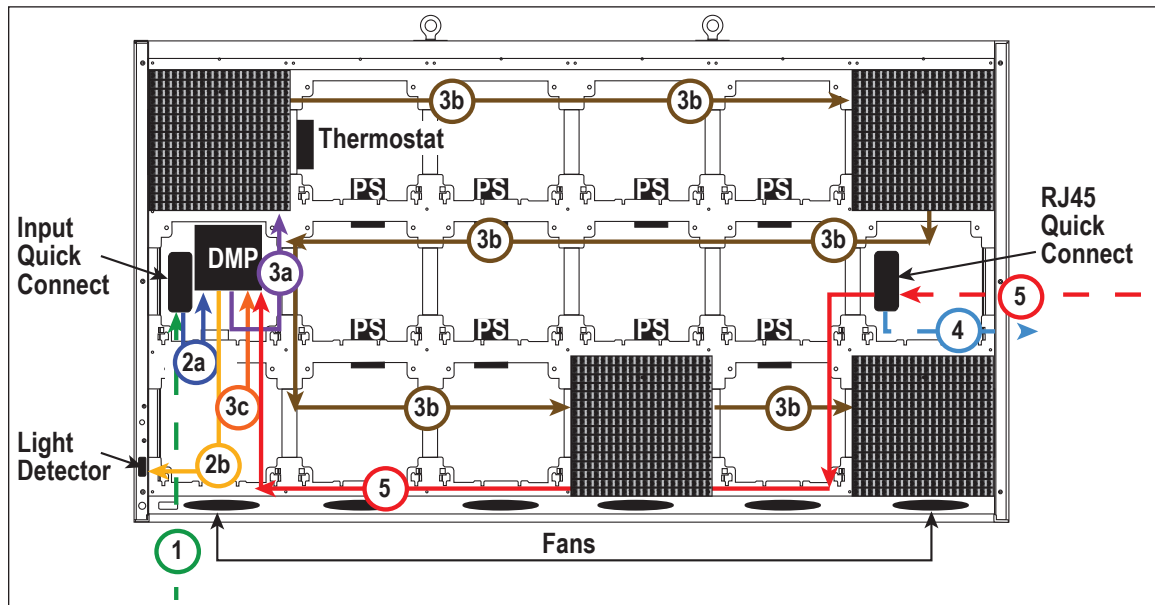
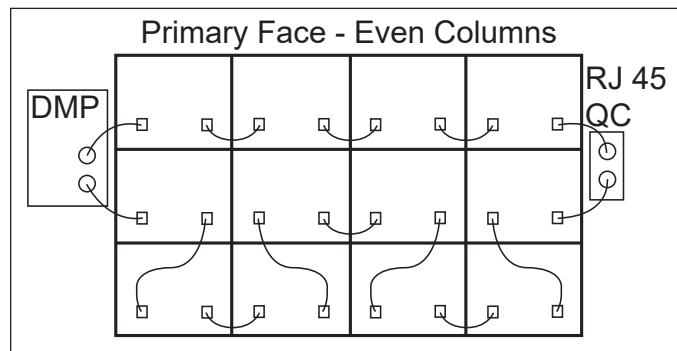

Figure 19: Signal Routing
Figure 20: Module-to-Module Signal Routing
Figure 19 shows how signal is routed through the display.
1. Signal enters the display from the external signal enclosure through the signal input quick-connect jacks (1).
3. In single-face displays, signal travels from the Controller SATA A jack to SATA A on the first Module (3a) and travels from module to module via SATA cables (3b). Refer to **Figure 20**. Signal returns to the Controller SATA B jack (3c).
4. In 2V displays, signal from the primary display face RJ45 Quick Connect travels from the Primary Out jack to the mirror face (4) to the Mirror In jack.
5. Signal returns from the mirror display via the Mirror Out jack to the Primary In jack on the primary display and finally returns to the Controller SATA B jack (5). Refer to **Figure 19**.